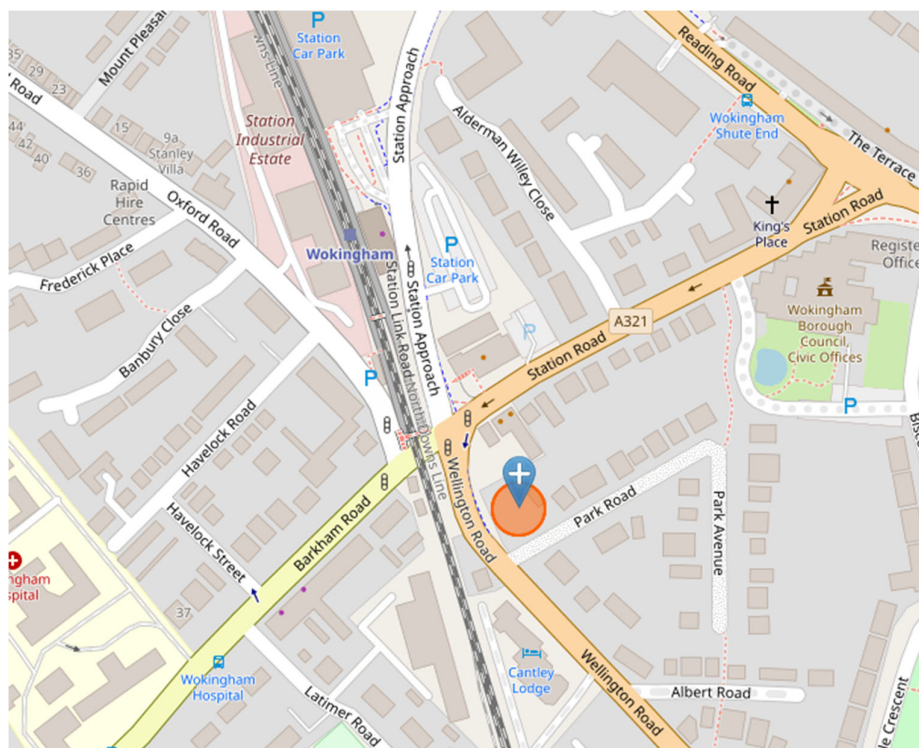

Figure 1.1 – Location Plan
- 1.4.1 The site location is shown below in **Figure 1.1**.